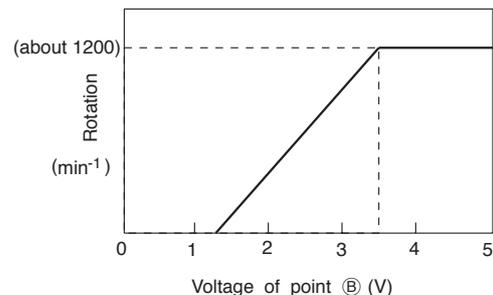

Fig. 5-3
- This pulse changes to analog voltage by R751 and C751 and it is applied to the fan motor as instruction voltage number of rotations. The relationship between the voltage of point ② and number of rotations becomes as shown in Fig.5-3. (The gap may arise depending on the condition of unit.)
- The feedback pulse of number of rotation is outputted from the fan motor and input to microcomputer pin ④⑭. The frequency of this pulse is 12/60 of the number of rotations. (Ex:  $1000\text{min}^{-1} \times 12/60 = 200\text{Hz}$ ) The microcomputer observes this frequency and to make it as the instruction number of rotation all the time, adjusts the output pulse width of pin ④⑩.